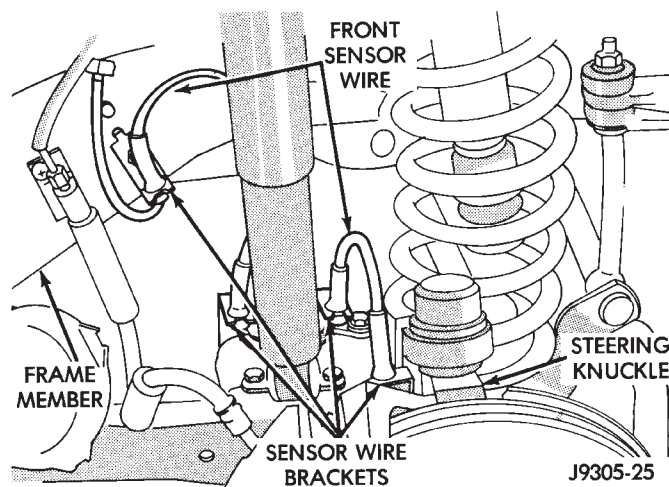

Fig. 4 Front Wheel Sensor Wire Routing
- (6) Disengage sensor wire from brackets on steering knuckle and frame member (Figs. 4 and 5).
- (1) Apply Mopar Lock N' Seal or Loctite 242 to sensor attaching bolt. Use new sensor bolt if original bolt is worn or damaged.
- (2) Position sensor on steering knuckle. Seat sensor locating tab in hole in knuckle and install sensor attaching bolt finger tight.
- (3) Tighten sensor bolt to 14 N•m (11 ft. lbs.) torque.
- (4) Route sensor wire from steering knuckle to fender panel (Figs. 4, 5, and 6).
- (5) Engage grommets on sensor wire in brackets on body, chassis, frame, and steering knuckle (Figs. 4, 5 and 6).
- (6) Check sensor wire routing. Be sure wire is clear of all chassis components and is not twisted or kinked at any spot.